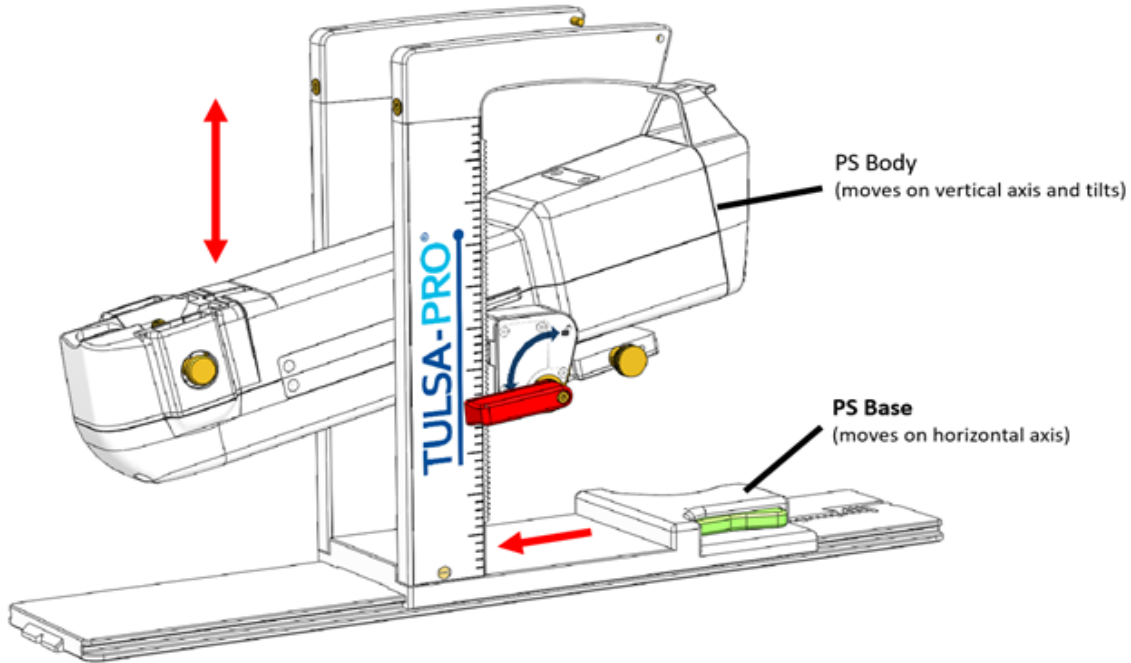

Figure 26: Adjusting the Positioning System
3. **MRI Technologist:** Manually move the PS into position so that the UA gripper aligns with the natural angle of the UA in the patient. Manually adjust the PS forward and backward, up and down, and left to right, and tilt the linear axis of the PS up and down (*Figure 26*).
NOTE: The PS adjustment knobs and levers are not colored as in *Figure 26*, but are colored here to help with these instructions.